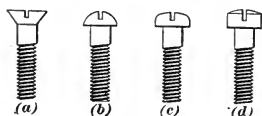

FIG. 44.
**100.** Machine screws are small screws with a slotted head. They are known to the trade as *flat heads*, shown in Fig. 44 (a); *round heads*, shown in Fig. 44 (b); *button heads*, shown in Fig. 44 (c), and *fillister heads*, shown in Fig. 44 (d).